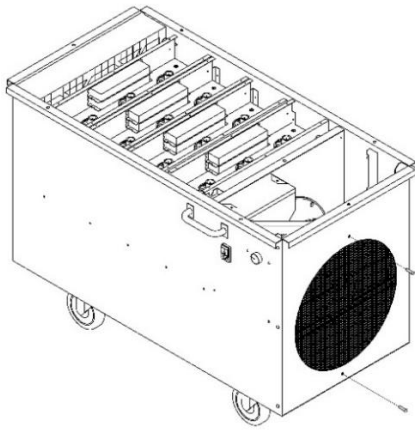

Figure 19
4.) Use an Allen wrench to remove (2) screws holding motor bracket to outlet grill. See Figure 19.
12.) Insert (2) screws holding motor bracket to outlet grille. Use an Allen wrench to tighten screws. See Figure 19.